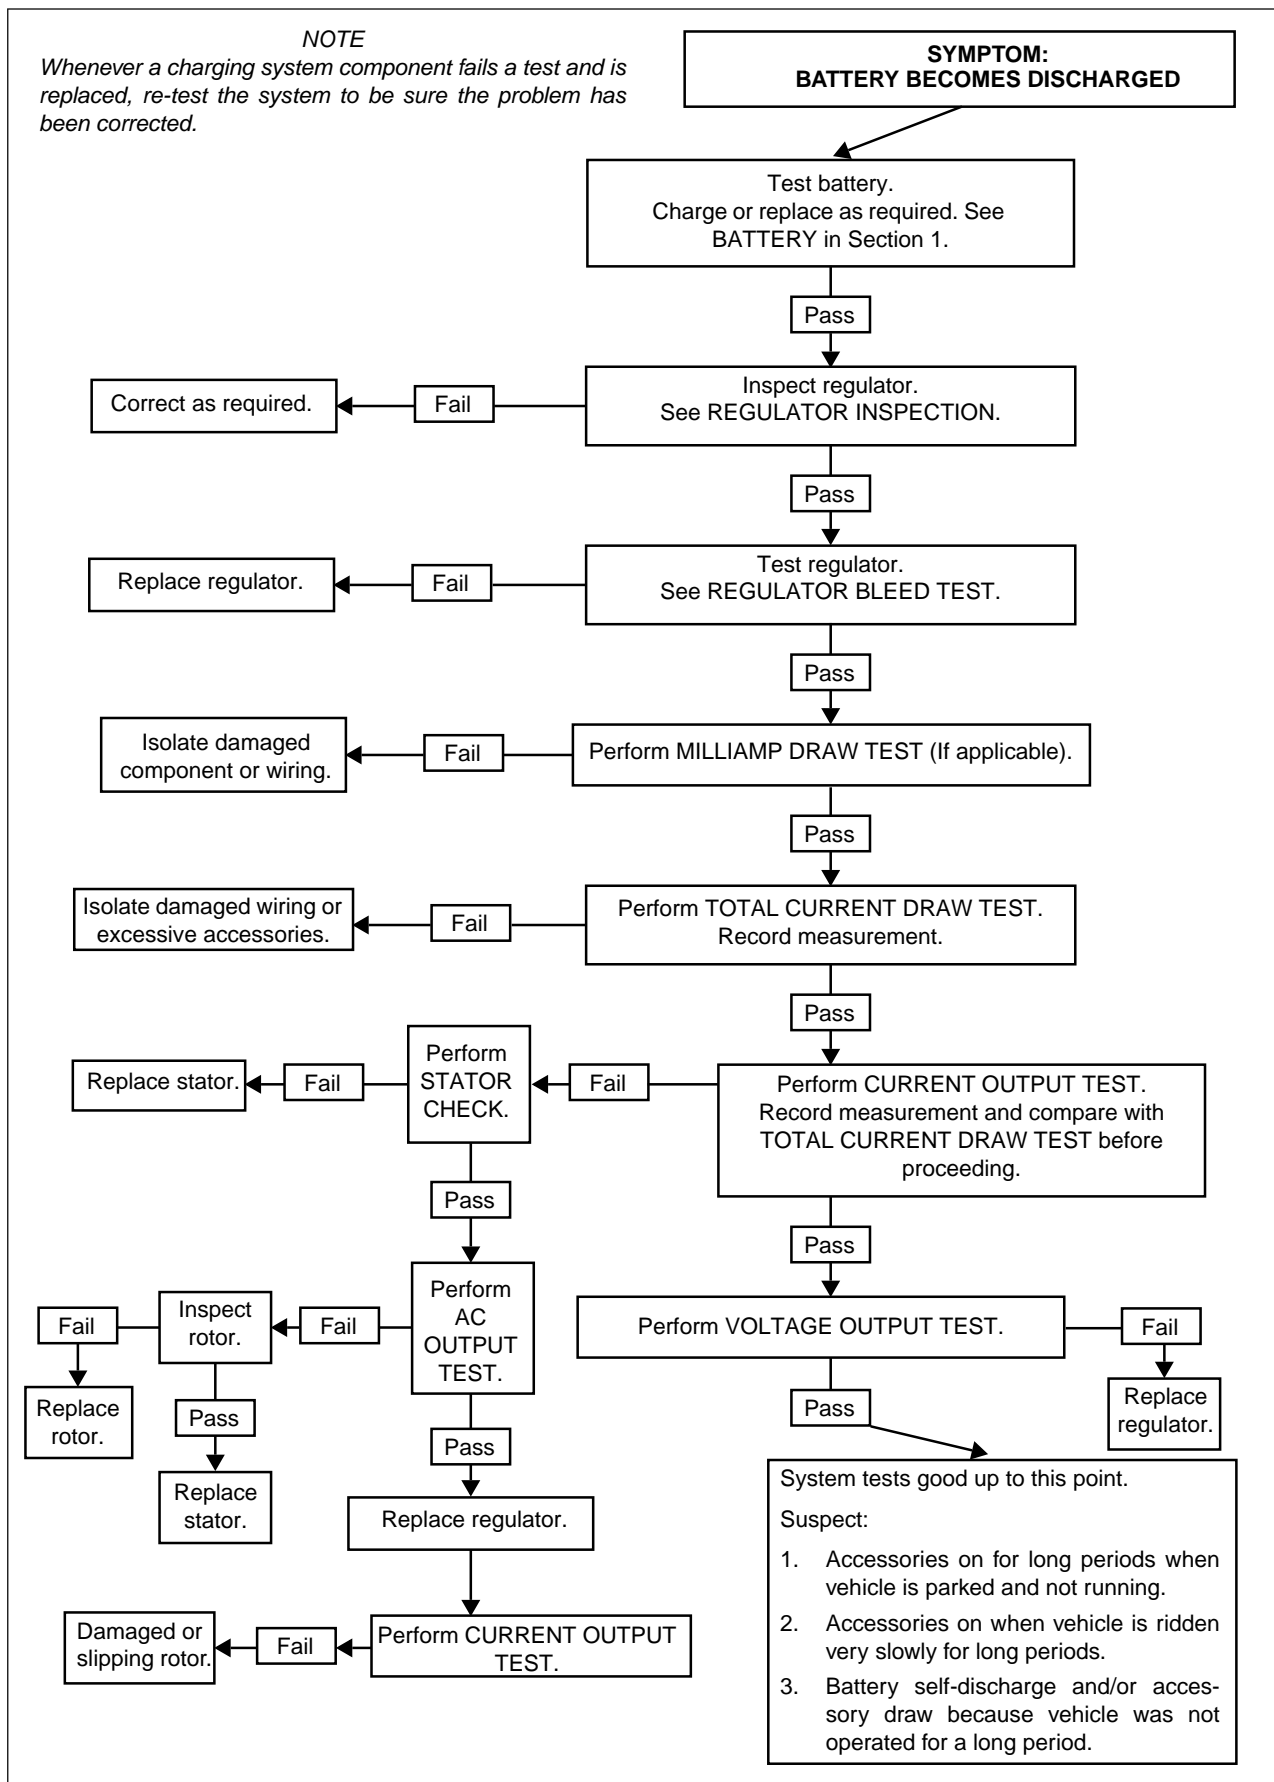

Figure 7-15. Charging System Troubleshooting
- a. If voltage to the battery is not more than 15 VDC, voltage output is within specifications. Investigate other possible problems. See Figure 7-15.